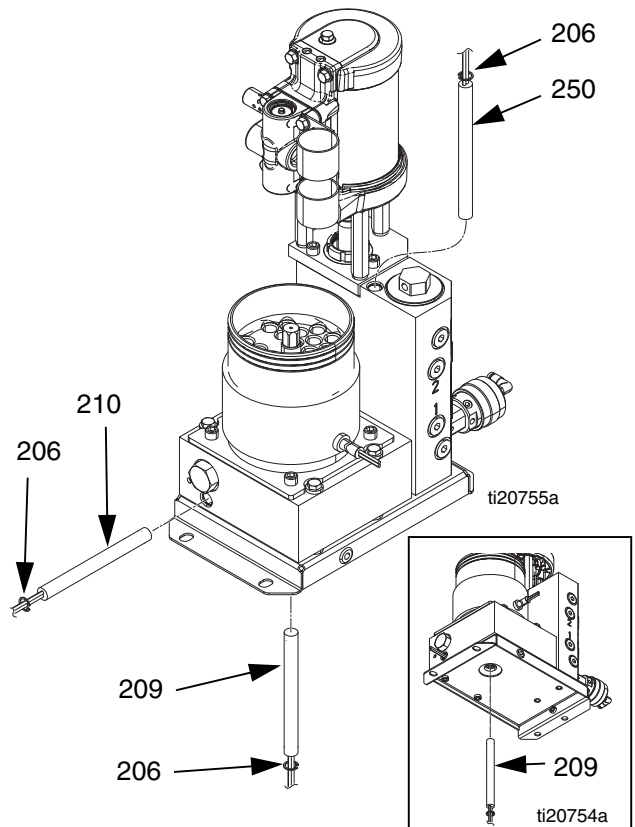

FIG. 39
Disassembly (see FIG. 39):
Reassembly (see FIG. 39):
2. Install heater rod then install heater rod retaining ring (206). See FIG. 39.